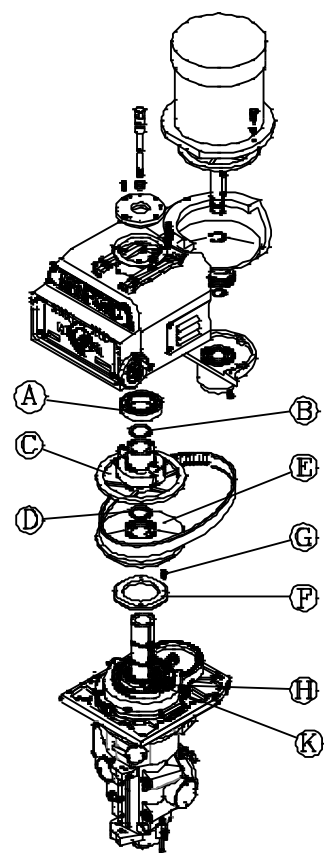

Fig. 7-2
3. Dismantle the four hexagonal concave bolts(S) and use two them to slip into the screw holes of the upper bearing housing(R). Take off (R).
4. Remove from atop the two hexagonal concave bolts (U) of speed change cover (T) and take off the bolt sleeves (V).
5. Dismantle six hexagonal concave bolts (W) from the gear housing (D)and dismantle the gear housing(D).
7.3 Brake Ring Replacement (Variable speed head) (Fig. 7-2)